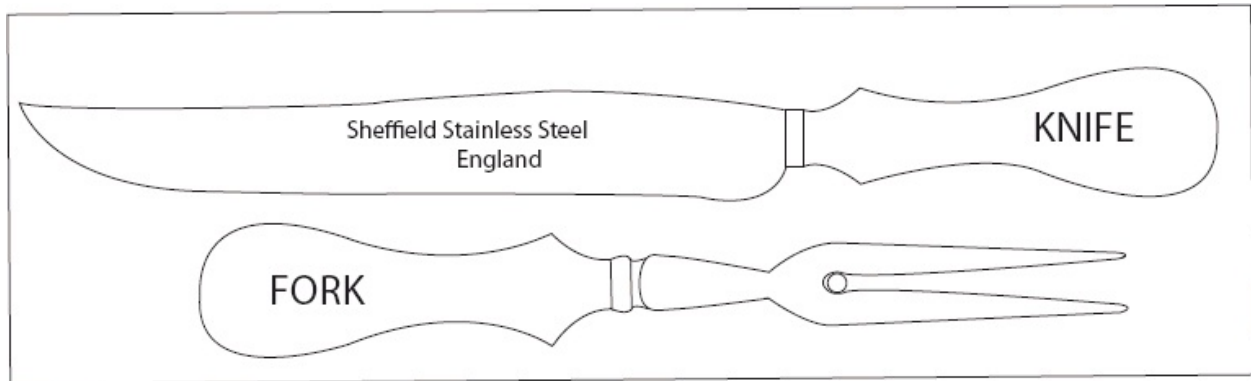

Fig. 11E-D3. Tray. Cut holes in the tray for the handles and add a peg for the tines of the fork.
3. Either carve or turn the handles to about 1- $\frac{3}{8}$ " diameter. See Fig. 11E-D3.
3. Make the top and bottom from $\frac{1}{4}$ " stock to fit inside the box, see Fig. 11E-D1.
Make the marquetry: Follow pattern Fig. 11E-D4. See **Appendix, Marquetry Tools**.
2. Saw the box apart as in Fig. 11E-D1.
Fig. 11E-D2. A Different Knife and Fork Holder. Three little cross-bars can be used to hold the utensils instead of cutting holes in the bottom tray. Two bars are cut to hold the blade. One bar is notched to hold the fork.
See Fig. 11E-D3.
3. Add a peg to keep the fork from sliding around. Fig. 11E-D2 shows another way to secure the knife and fork inside the box.
Finish: Finish the box and marquetry as you would any other piece. Fig. 11E-D3 shows the knife and fork set in the box.
Fig. 11E-D4. Marquetry Pattern. Get the dimensions of the pattern from the finished size of the box lid. For more on how to add the marquetry top, see Ken Horner's marquetry book, *Basic Marquetry and Beyond. Expert Techniques for Crafting Beautiful Images with Veneer & Inlay*. Linden Publishing, Fresno, Calif.